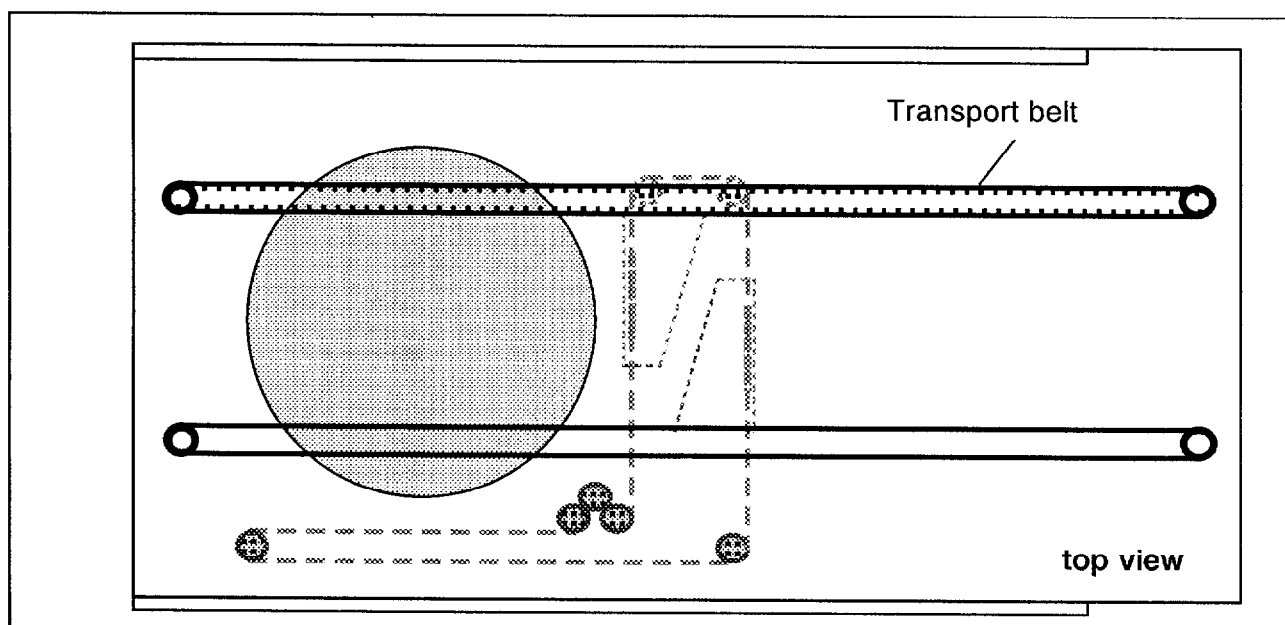

Fig. 1
- Remove the old transport belt (Fig. 1).